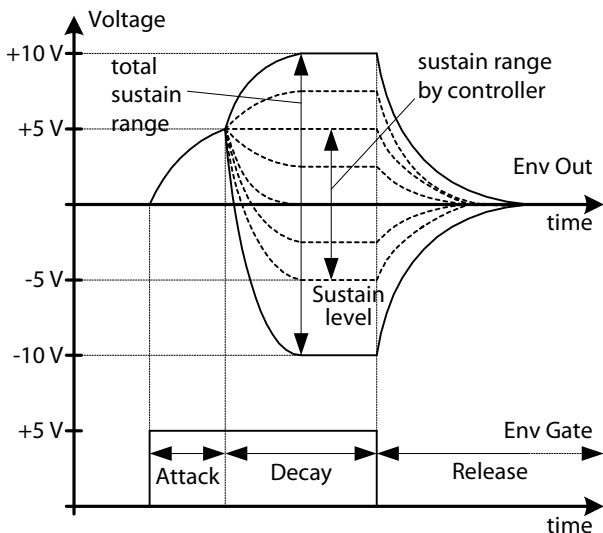

Fig. 6 Envelope ranges
Sustain value asymptotically. A control voltage of down to -5 V leads to a Sustain value of -10 V. The **LED's (11), (17) and (20)** are monitoring the related phases by rising and falling brightness. For positive envelope output voltages they light up "green" and "red" for negative ones. Fig. 6 shows the mentioned relationships.